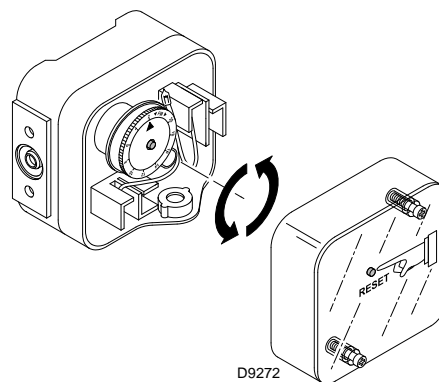

Fig. 26
- Adjust the maximum gas pressure switch (Fig. 26) to the end of the scale.
Adjust the maximum gas pressure switch after having performed all other burner adjustments with the maximum gas pressure switch set to the end of the scale (Fig. 26).